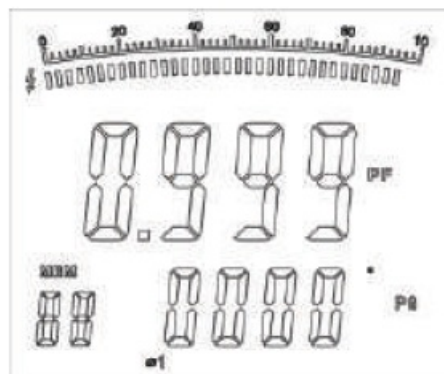

Figure 18
4. When measuring 3 phase 4 wires: (see figure 18, 19 and 20)